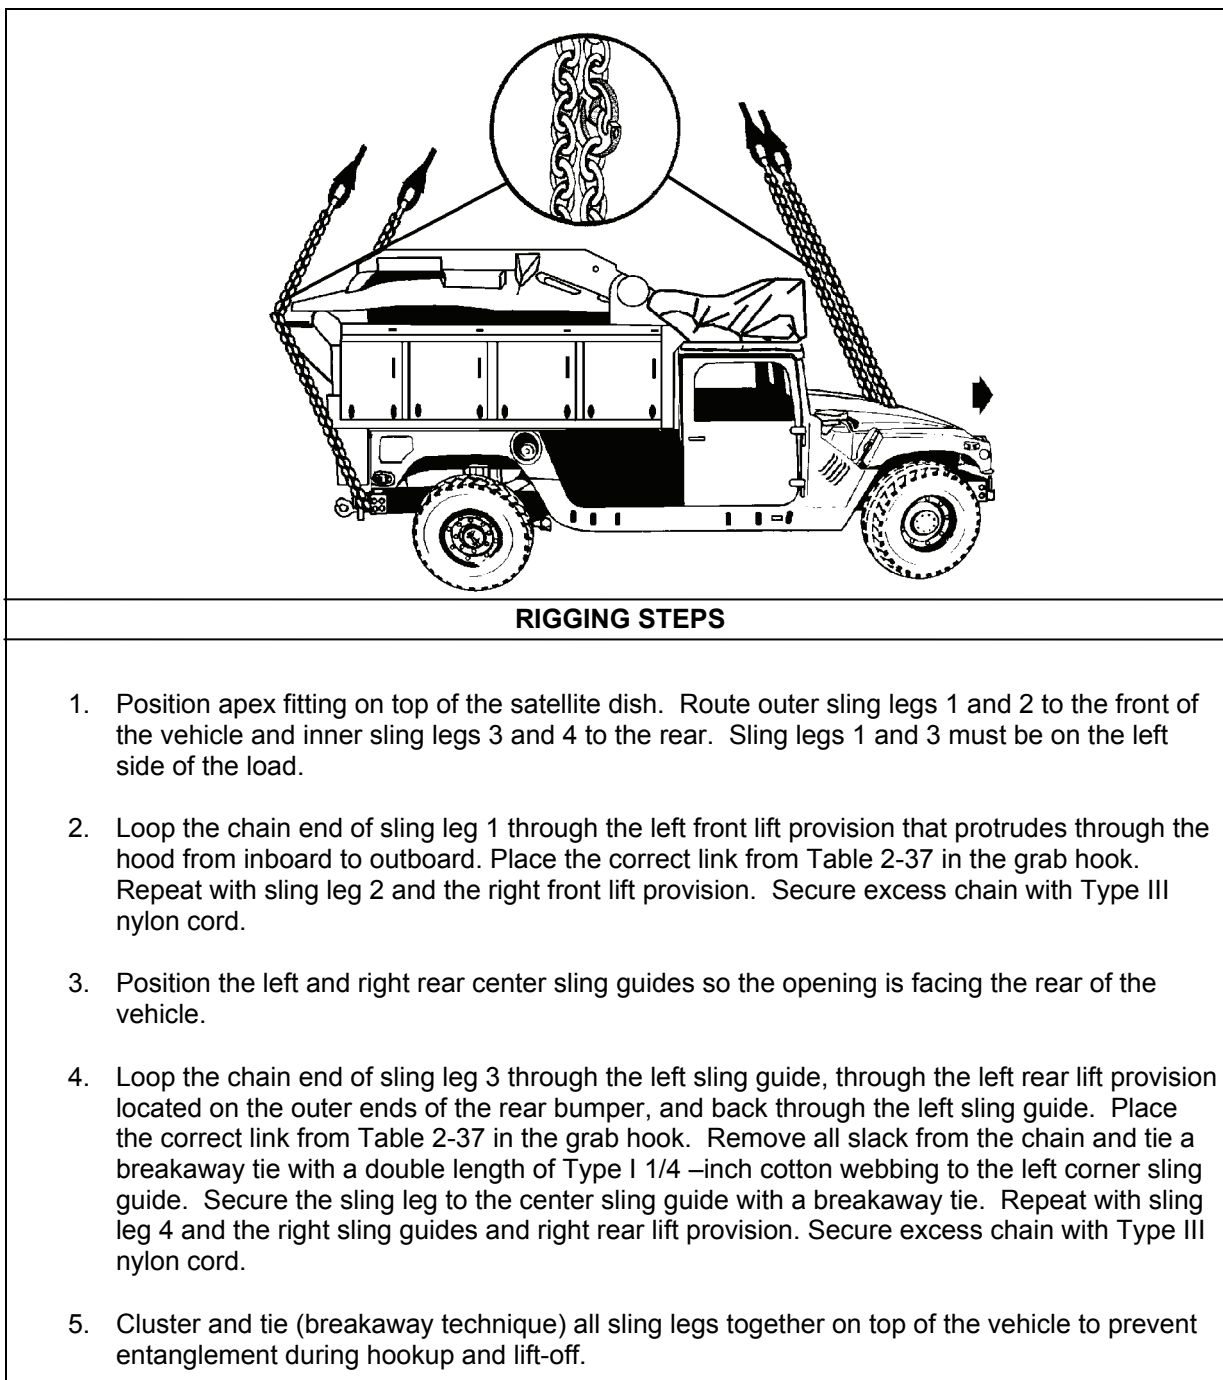

Figure 2-36. M1113 with Tactical Super High Frequency Satellite Terminal
- **Rigging.** Rig the load according to the steps in Figure 2-36.